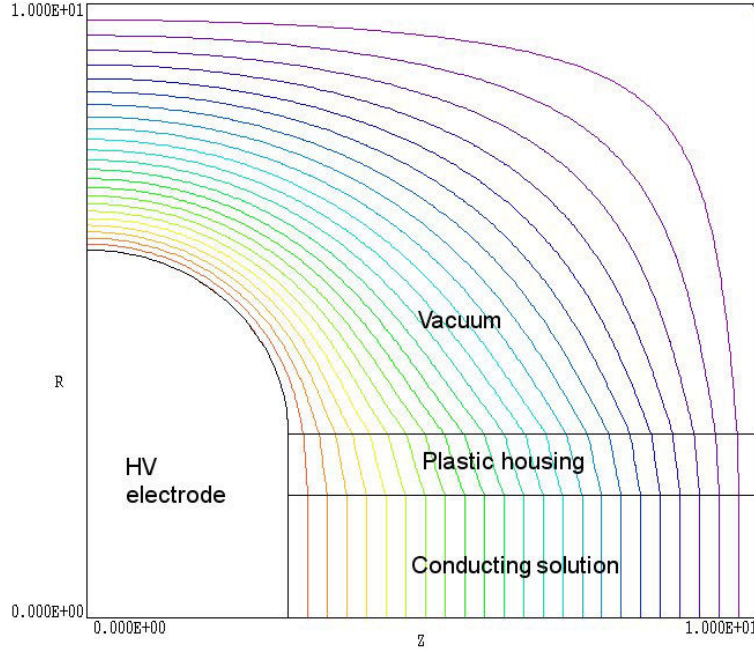

Figure 2: Illustration of a mixed dielectric-conductive solution.
**EStat** does not handle general solutions where both real and displacement currents have significant roles. The Field Precision **RFE2** package addresses this regime. **EStat** may be useful to model systems with a mixture of materials where some satisfy the limit of Eq. 9 and others satisfy Eq. 10. For example, Fig. 2 shows a resistive probe for pulsed voltages. The conductive solution inside the probe has been adjusted to satisfy Eq. 10. The plastic housing and vacuum space have  $\sigma = 0.0$  and therefore satisfy Eq. 9. In the dielectric solution of Fig. 2 the plastic and vacuum regions have relative dielectric constants  $\epsilon_r = 2.7$  and  $\epsilon_r = 1.0$ . The conductive region was assigned the high value  $\epsilon_r = 1.0 \times 10^4$ . The electrostatic solution in the resistor was therefore determined by the shape of the conductive medium with little dependence on the surrounding dielectrics. Note that the electric field in the solution has uniform amplitude and points mainly in the axial direction. The solution within the conductor provides the proper boundary condition for the field solution in the surrounding insulators.